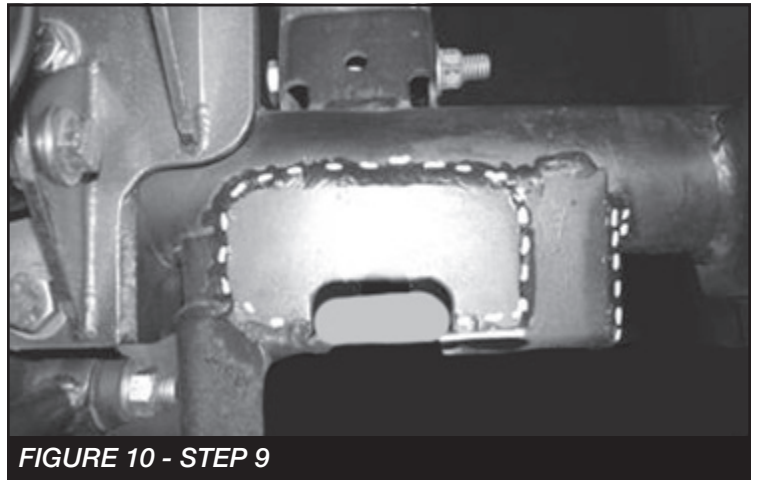

FIGURE 10 - STEP 9
9. Locate FT50343 gusset, position it onto the top of the axle and trac bar mount. Weld the gusset as shown in the photo. **SEE FIGURE 10**
11. Locate FT50291 Front Inner Trac Bar Bracket, FT50292 Front Outer Trac Bar Bracket, supplied 9/16" x 3" bolt , FT50358 nut tab and the supplied 5/16 x 1" hardware. Position the inner bracket into the trac bar mount. Place the 9/16" bolt into the outer bracket and a flat washer on the back side of the bracket. Attach the outer bracket to the factory trac bar mount with the FT50358 nut tab and leave loose. Take a 5/16" x 1" bolt with a flat washer and insert it into the outer bracket only. Place two (2) additional flat washers onto the bolt between the outer bracket and the factory trac bar bracket followed by another washer and nut on the inside of the factory mount. Leave loose. Attach the inner trac bar bracket to